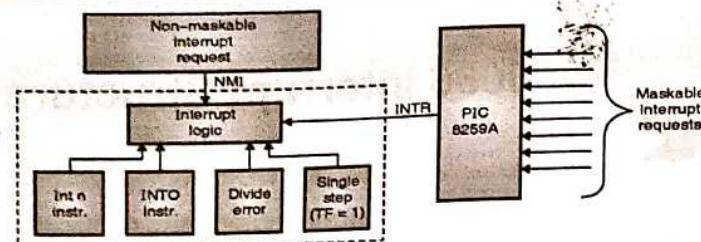

Fig. 7.1.1 : Interrupt sources (INTO-Interrupt on Overflow)
- The 8086 can handle up to 256 different interrupt types. Interrupts may be initiated by devices external to the CPU; in addition, they also may be triggered by software interrupt instructions and under certain conditions, by the CPU itself. Fig. 7.1.1 shows interrupt sources for 8086.
- As shown in Fig. 7.1.1 8086 has two lines that external device may use to signal interrupts. The INTR line is usually driven by an Intel 8259A (PIC), which in turn connected to the devices that need interrupt services.